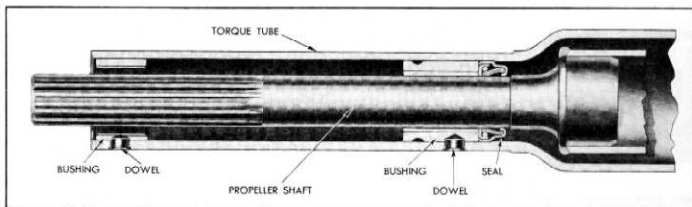

Fig. 8—Propeller Shaft Bushings and Oil Seal
1. Drill out dowel pins retaining bushings (fig. 8).